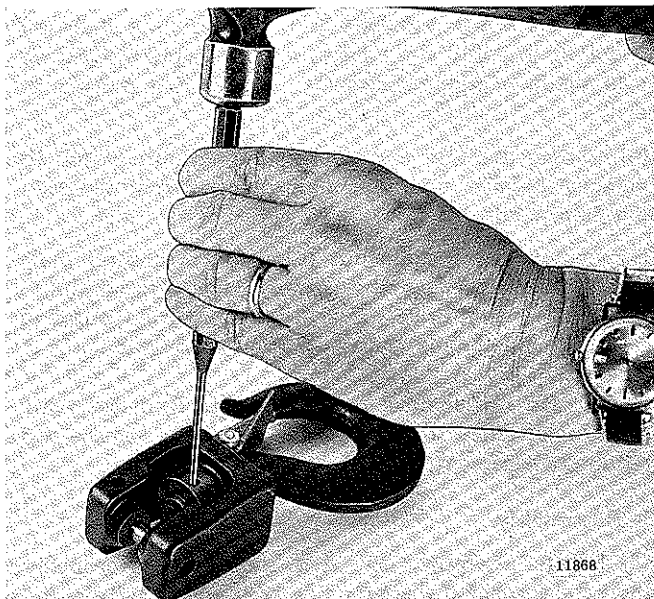

Figure 7-29. Removing Roll Pin Securing Hook Nut to Hook Shank
(1) Separate load chain (coil or roller type) from lower block assembly. Drive out small roll pin securing lower block pin in lower block yoke and push lower block pin from yoke to release chain. On roller chain models, an adapter is used to attach chain to lower block. This adapter is removed from end of chain by first driving out small roll pin and then pushing out adapter pin.
(2) Drive grooved pin from limit actuator and pull actuator from end of chain.
(3) Lower blocks are of a pinned construction, permitting replacement of body, thrust bearing, or hook and nut assembly. To disassemble, drive spring pin from hook nut (Fig. 7-29). With pin removed, hold hook nut from turning with drift punch and rotate hook to unscrew it from nut.